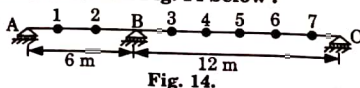

Fig. 14.
b. Using Muller Breslau principle, compute the influence line obtained at 2 m intervals for reaction at C of the continuous beam ABC shown in Fig. 14 below: